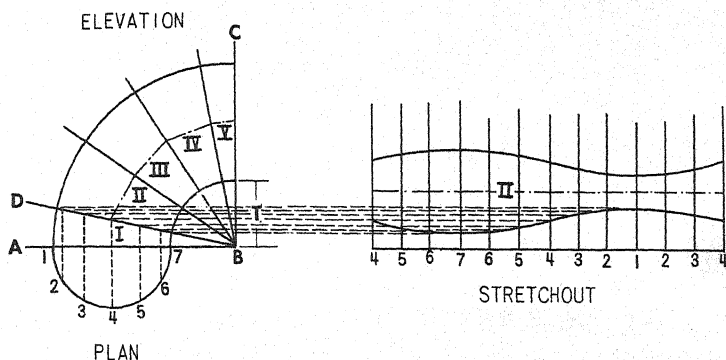

Figure 255.—Development of a five-piece 90° elbow.
The parallel-line method can also be used to develop an elbow of any desired diameter, depth of throat, or number of pieces. Figure 255 illustrates the development of a five-piece 90° elbow. If you feel the need for a bit of brain calisthenics, "turn to" on this one with a pair of dividers and a straightedge.
1. Using figure 255 as a model, draw an angle similar to *ABC*.
12. Erect perpendiculars from the base line of the stretchout and number them as shown in figure 255. (The number with which you begin and end in your stretchout will determine the location of the seam in your finished elbow. The best location for a seam on an elbow is on the side, so you number from 4 to 7 to 1 to 4. Numbering from 1 to 7 to 1, as was shown in the previous development, would place the seam on the heel. This is not desirable as it would take more time and material to complete the seam. Numbering from 7 to 1 to 7 would place the seam in the throat of the elbow, and that too, would be undesirable, since often the space available for seaming the throat is too little to make a strong seam. The location of the seam is a matter of preference and is determined by the job you are laying out.)